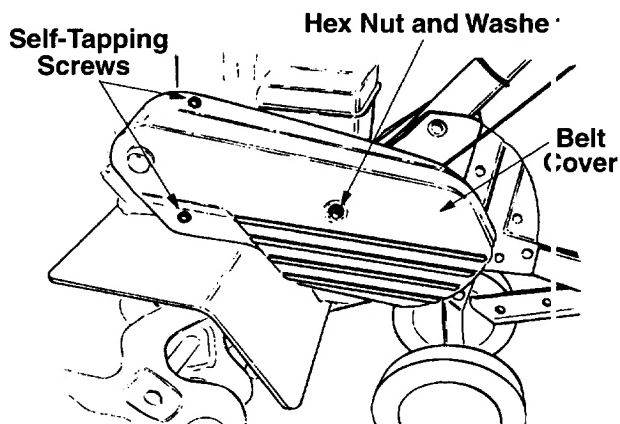

Figure 15.
2. Remove two self-tapping screws and flat washers from the front of belt cover. (See Figure 15)